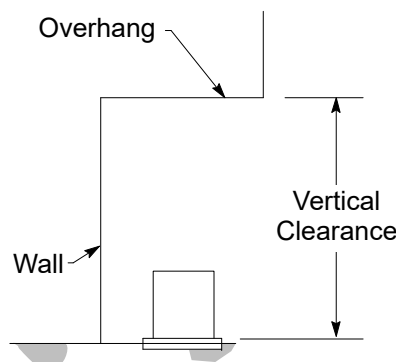

Figure 2
C. Vertical clearance from overhangs (see Figure 2): To provide space for hoisting equipment so that equipment can be replaced, the following vertical clearances from the top of the pad for pad-mounted equipment or top of the enclosure for subsurface equipment are required (based on G.O. 128, Rules 17.3 and 34.2).